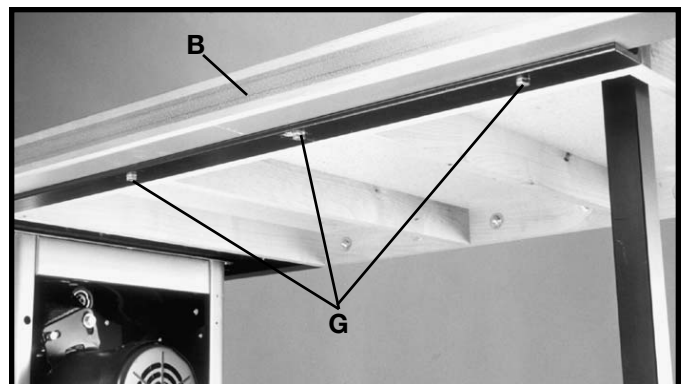

Fig. 103
2. Position the guide tube (B) Fig. 103, on the front rail and fasten the guide tube to the rail using the 1/2" long hex screws (G) and lockwashers in all of the holes.